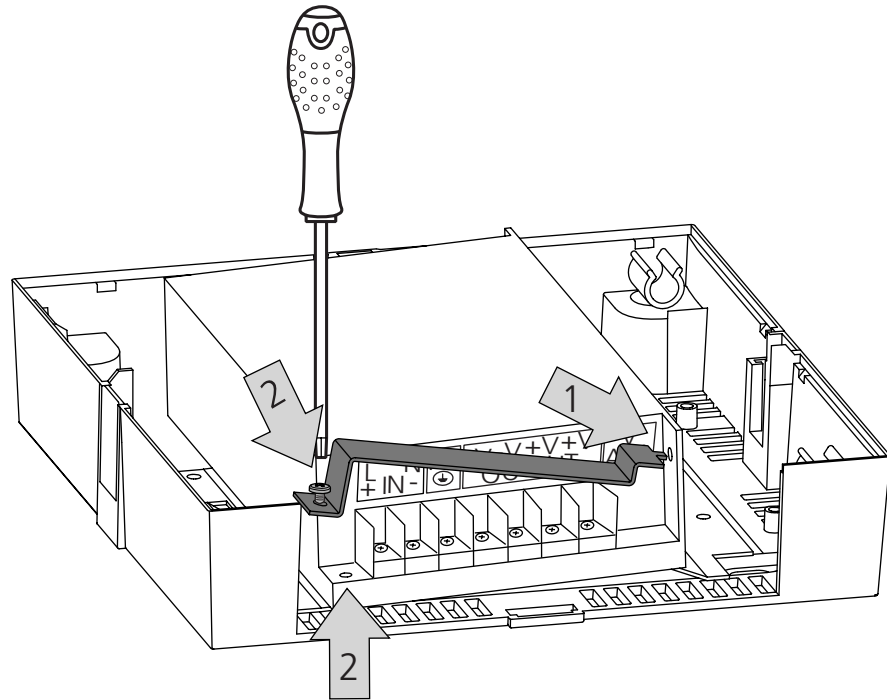

Figure 16. Mounting of the voltage safety cover.
IMPORTANT: The Power Supply module connects to 100 - 250 V AC. When working with the units the mains power supply cable must always be disconnected. For safety the covers must always be mounted after an installation. The voltage safety cover has to be mounted on top of the voltage connector in the Power Supply module to prevent hazardous situations, like electric shock, see figure 16 on page 14.
- 5 Mount the voltage safety cover on its position (1), fasten it with one screw (2), see figure 16.